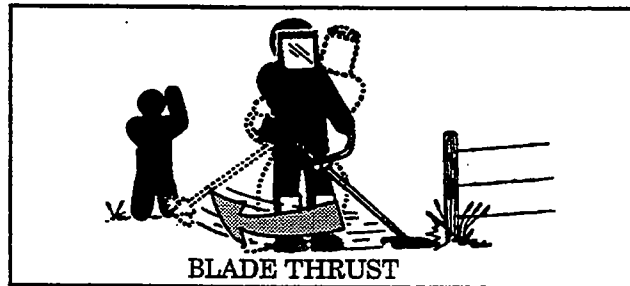

Figure 21
**1. WHAT CAUSES BLADE THRUST** *Blade Thrust* can occur when the spinning blade contacts an object that it does not cut. This contact causes the blade to stop for an instant and then suddenly move or "thrust" away from the object that was hit. The "thrusting" reaction can be violent enough to cause the operator to be propelled in any direction and lose control of the unit. The uncontrolled unit can cause serious injury if the blade contacts the operator or others. Figure 21 .